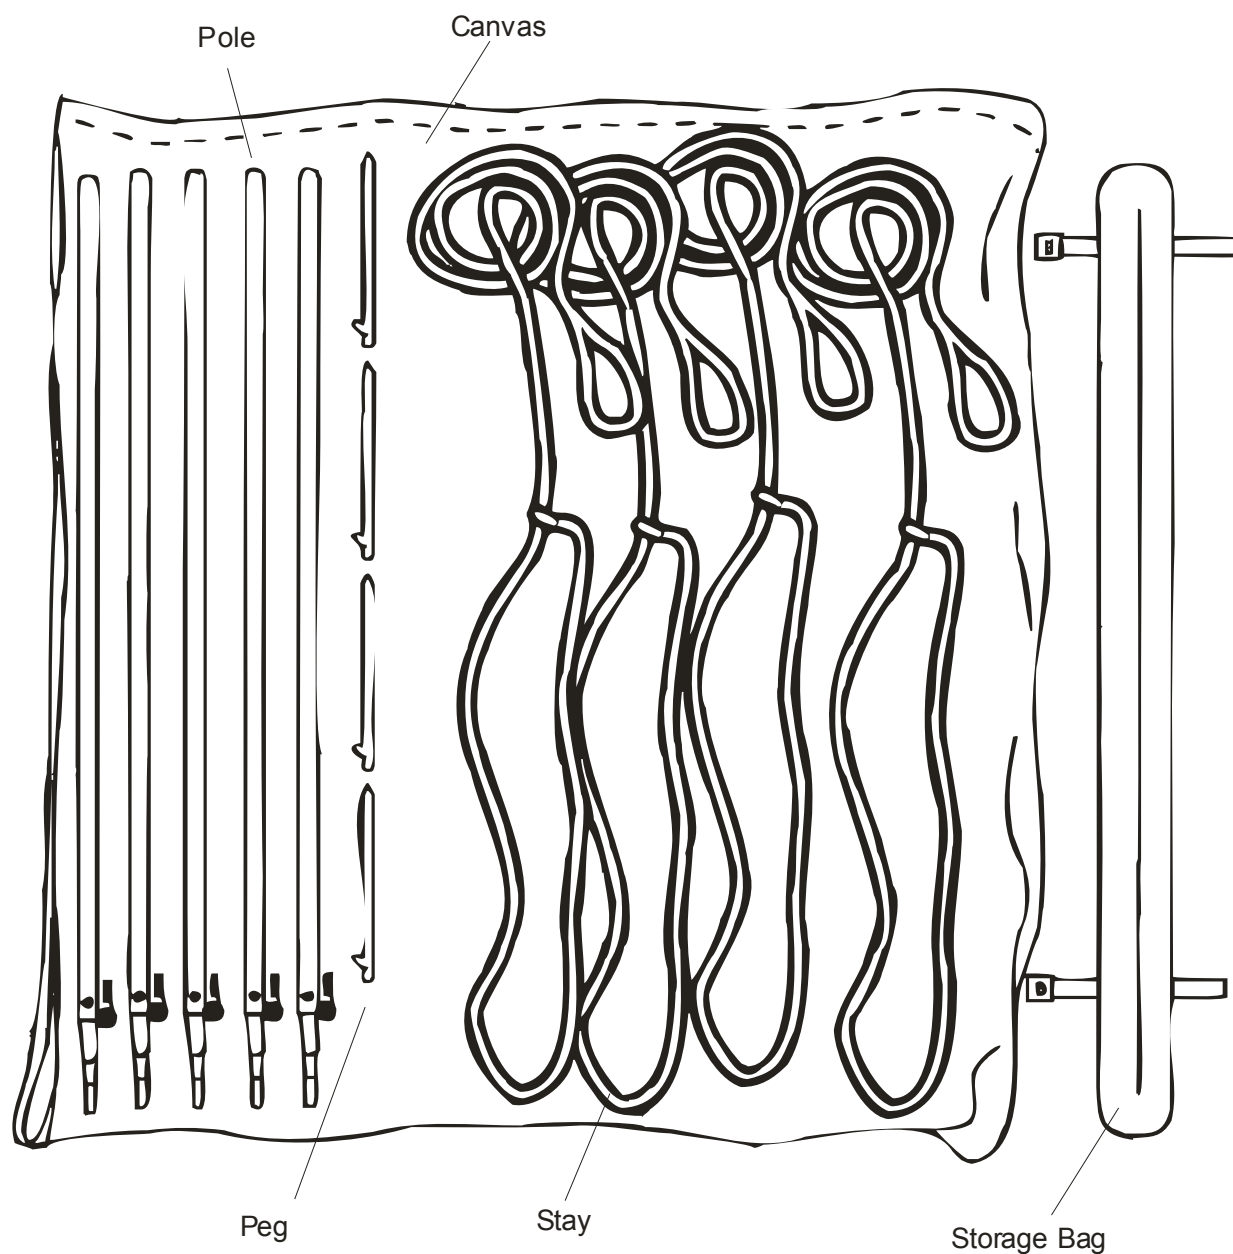

Figure 1-11. Rain Cover Kit
a. **Rain Cover Kit.** This kit provides a cover for the serving table area in the event of inclement weather. The kit comes complete with canvas, extendible poles, metal pegs, and tent stays, as illustrated in figure 1-11. The 3-pound sledge is used only to drive the metal tent pegs into the ground.